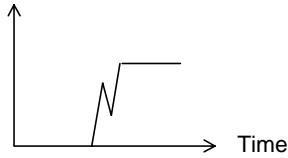

Figure 12
- The open of C_D terminal may cause double pulses shown in Figure 12 at release.
The temperature characteristics of the detection voltage are expressed by the oblique line parts in Figure 12.